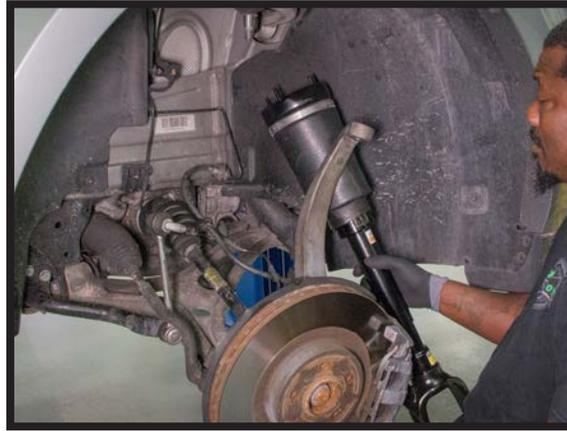

FIGURE 7
1. INSTALL THE ARNOTT STRUT ONTO THE VEHICLE IN THE SAME ORIENTATION AS REMOVED. (FIGURE 7)